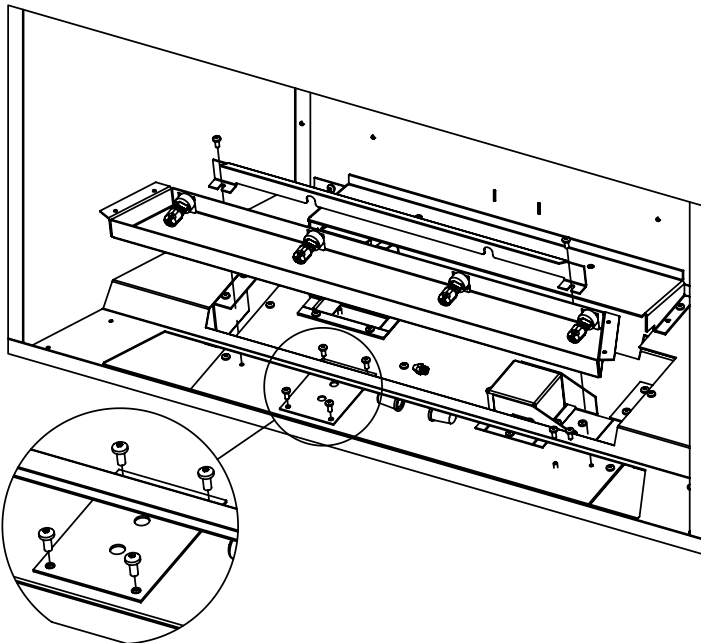

Figure 23: Wire Plate Removal
5. Remove wire cover then lift up light tray to reveal wire plate, remove the four (4) T-20 screws and feed the wires out along with the light tray (see Figure 23). Disconnect the wire connectors to fully remove. Do not ever remove marettes.